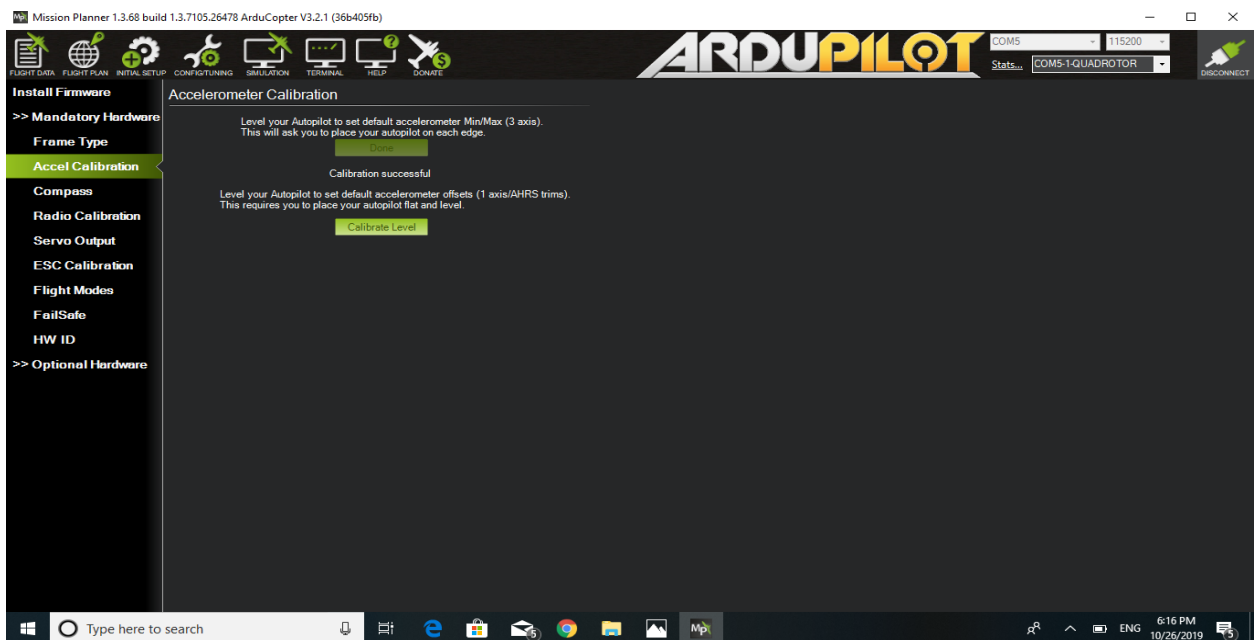

Figure 22: Mission Planner Calibration – Accel Calibration Successful
10.6 Flight mode calibration: Do calibration for the different flight mode such as RTL, Stabilize etc. The preferable flight modes are shown in Figure 22.